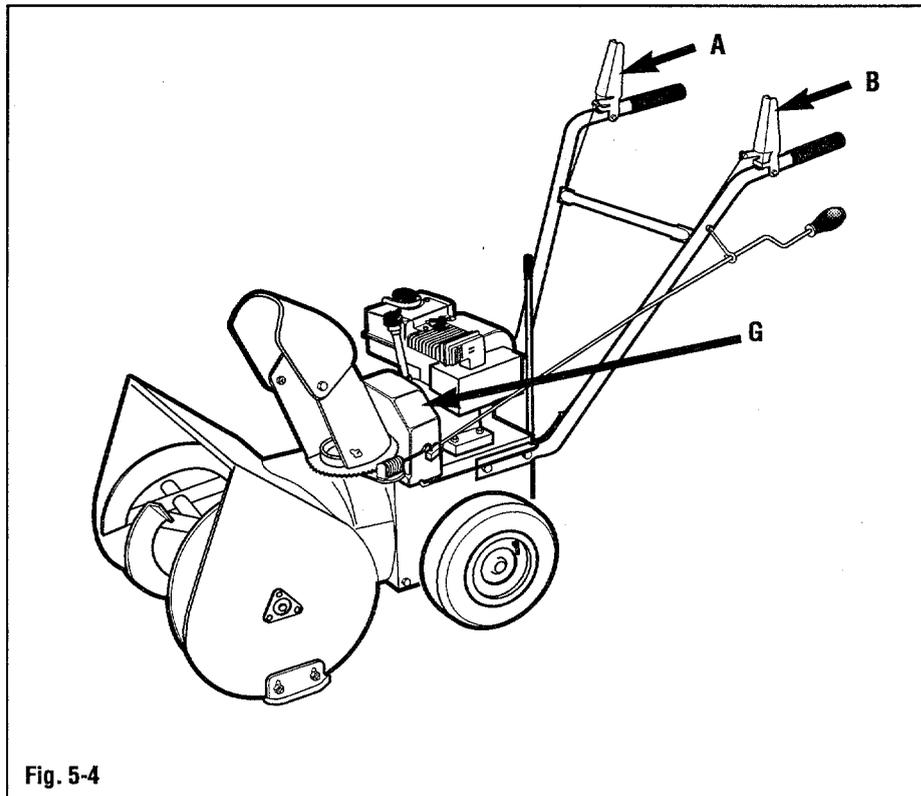
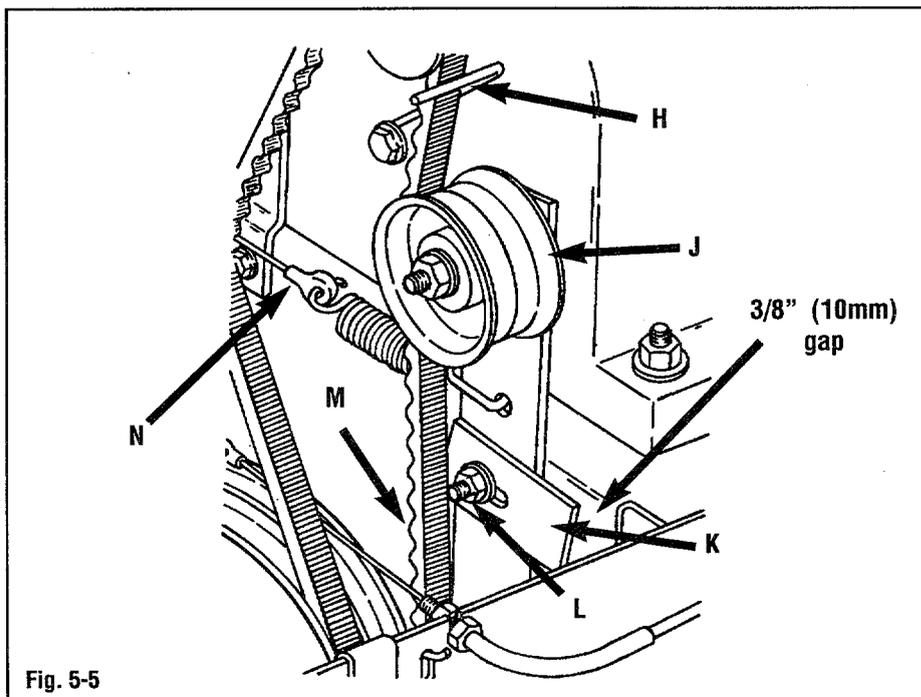

Fig. 5-4
Fig. 5-5
1. Remove the two bolts securing the belt cover (G, Fig. 5-4). Remove the belt cover (G).
2. Push the idler pulley (J, Fig. 5-5) until the wheel drive belt (M) is tight.
3. Adjust idler stop (K) at nut (L) until there is a 3/8" (10mm) gap between the outer edge of the idler stop (K) and the inside edge of the frame. Tighten the nut (L) securely after adjusting.
4. When the wheel drive control lever is released (B, Fig. 5-4), cable (N, Fig. 5-5) should be under a slight tension. Adjust, if needed, as follows:
- b. Adjust cable tension by rotating the adjustment nut (P) until cable (N, Fig. 5-5) is under a slight tension when the wheel drive control lever (B, Fig. 5-4) is released.
8. Position the belt cover back on the unit (G, Fig. 5-4) and secure with the two screws removed earlier.
7. Rotate the chute control crank and check for binding. Reposition the worm gear and support (V), as needed, for smooth operation.
9. Position the belt cover (G, Fig. 5-4) back on the unit and secure with the two bolts removed earlier.